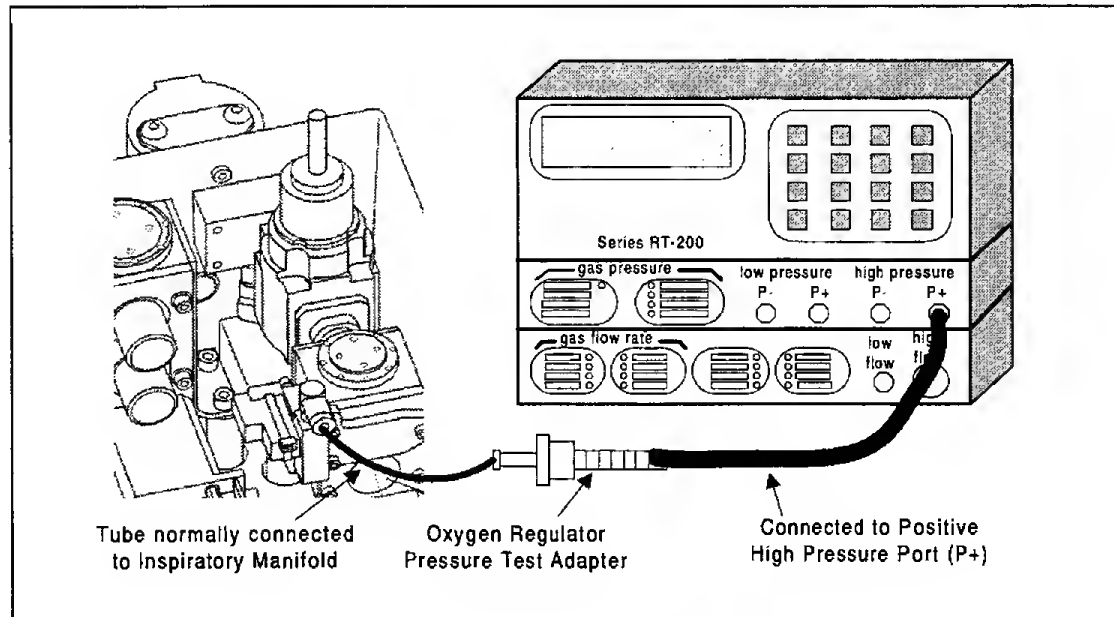

Figure 5-11: Oxygen High Pressure Connection
5. Connect RT-200 Positive High Pressure Port to the Oxygen Valve pressure port (see Figure 5-11).